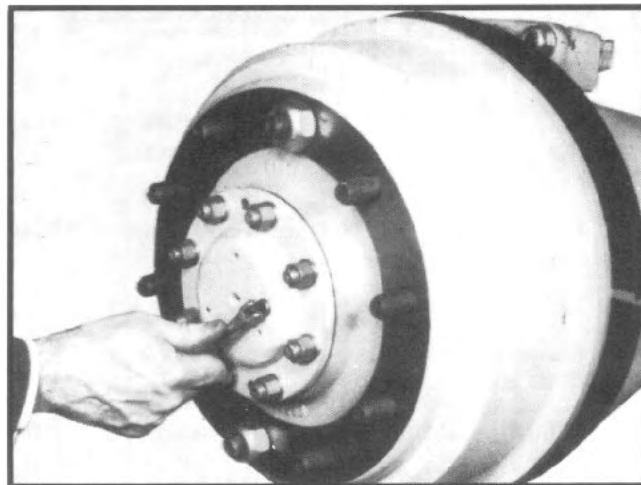

Fig. 41
7. On oil lubricated wheel bearings, turn wheel hub to position the oil plug hole in the outer axle shaft horizontally. (See fig. 41, Page 19.) Fill hub with specified oil, install plug.